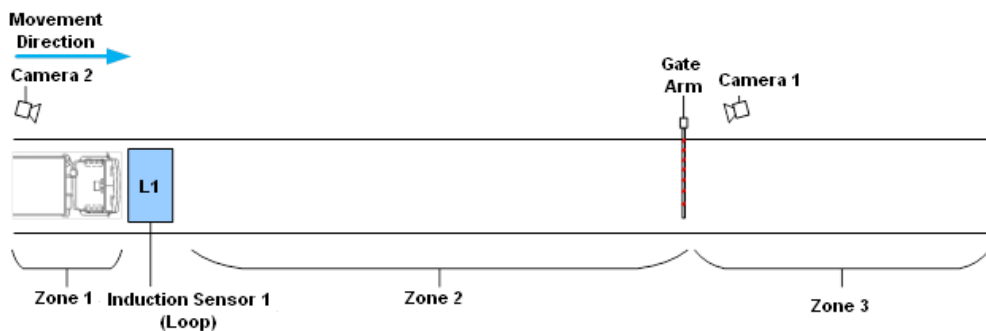

Figure 6.5.25.17
- Step 1.** Primarily, no vehicle appears in Zone 1, 2, 3, Sensor L1 is open. A vehicle entries Zone 1 (Figure 6.5.25.17).